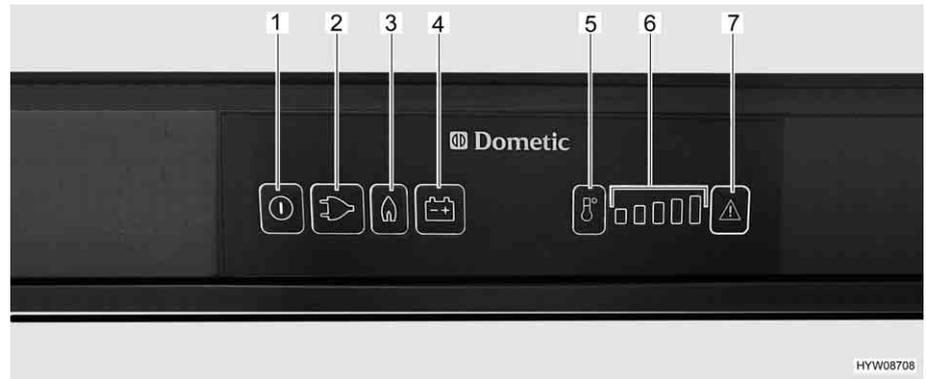

Fig. 165 Operating controls for the refrigerator (Dometic 8 series with MES)
- Press and hold the On/Off button (Fig. 165,1) for about 2 seconds. The refrigerator switches itself on. The button of the operating mode chosen most recently lights up.
- If necessary, press the button for the operating mode "Gas" (Fig. 165,3). The button lights up. Gas supply is open. Ignition will take place automatically. A ticking sound can be heard until ignition has been completed successfully.
- Use the temperature range selection button (Fig. 165,5) to set the refrigerating temperature.
- If necessary, press the button for the operating mode "230 V" (Fig. 165,2). The button lights up.
- If necessary, press the button for the operating mode "12 V" (Fig. 165,4). The button lights up.